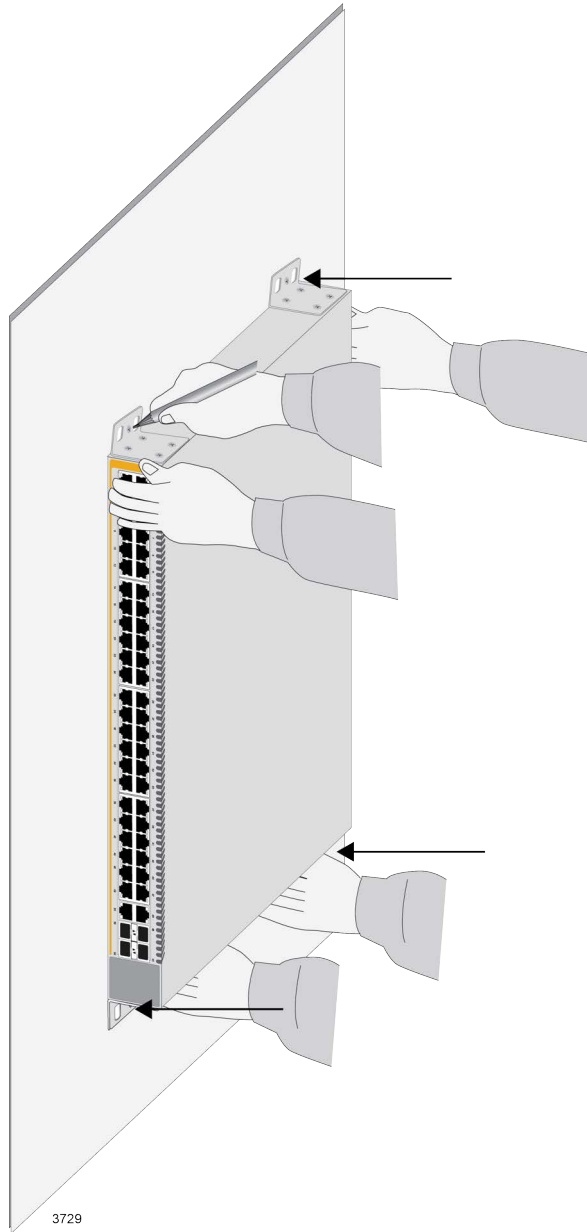

Figure 64. Marking the Locations of the Bracket Holes on a Concrete Wall
3. Have two people hold the switch on the concrete wall at the selected location for the device while you use a pencil or pen to mark the wall with the locations of the four screw holes in the four brackets. Refer to Figure 64 on page 134.